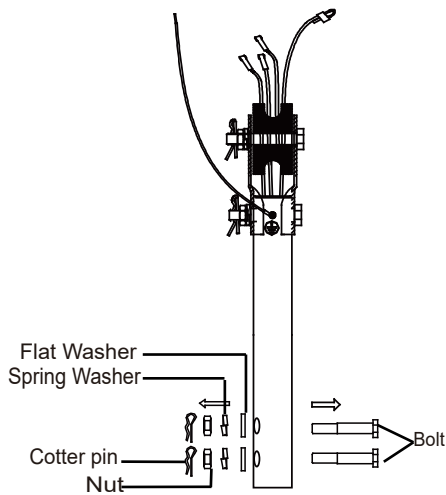

Fig.2
- 1) Remove the parts from the both side of downrod.(Fig.2)